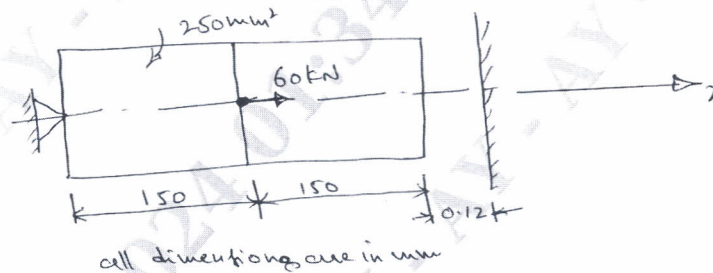

Fig.Q9(c)
- c. For the continuum as shown in Fig.Q9(c). Determine the nodal displacement, reactions at the supports. Take $E = 200$ GPa. (By using penalty method)